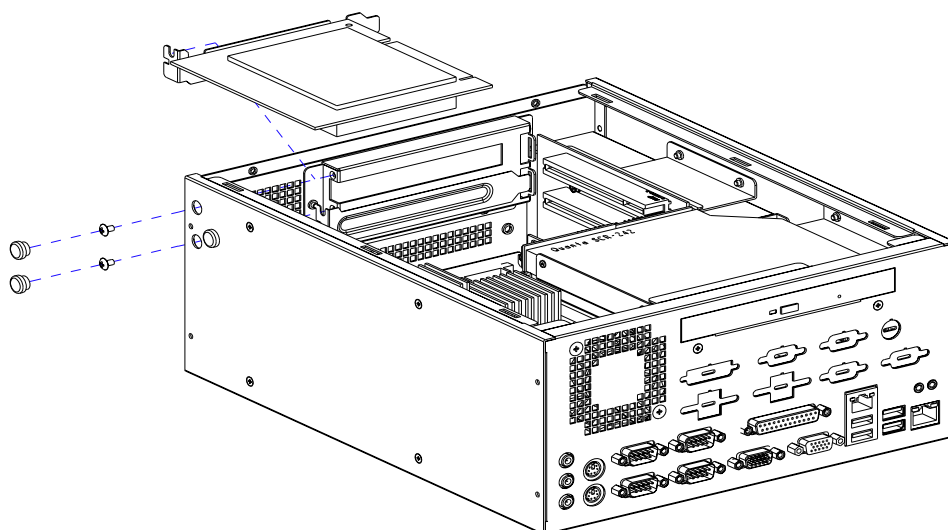

Figure 2.5 Remove the round plastic cap to fasten/loose the screw to the add-on cards
3. When you install the add-on card, please remove the round plastic cap on the chassis so the screwdriver can be inserted to the hole to loosen or fasten the screw on the I/O bracket on the rear plate. (Figure 2.5)